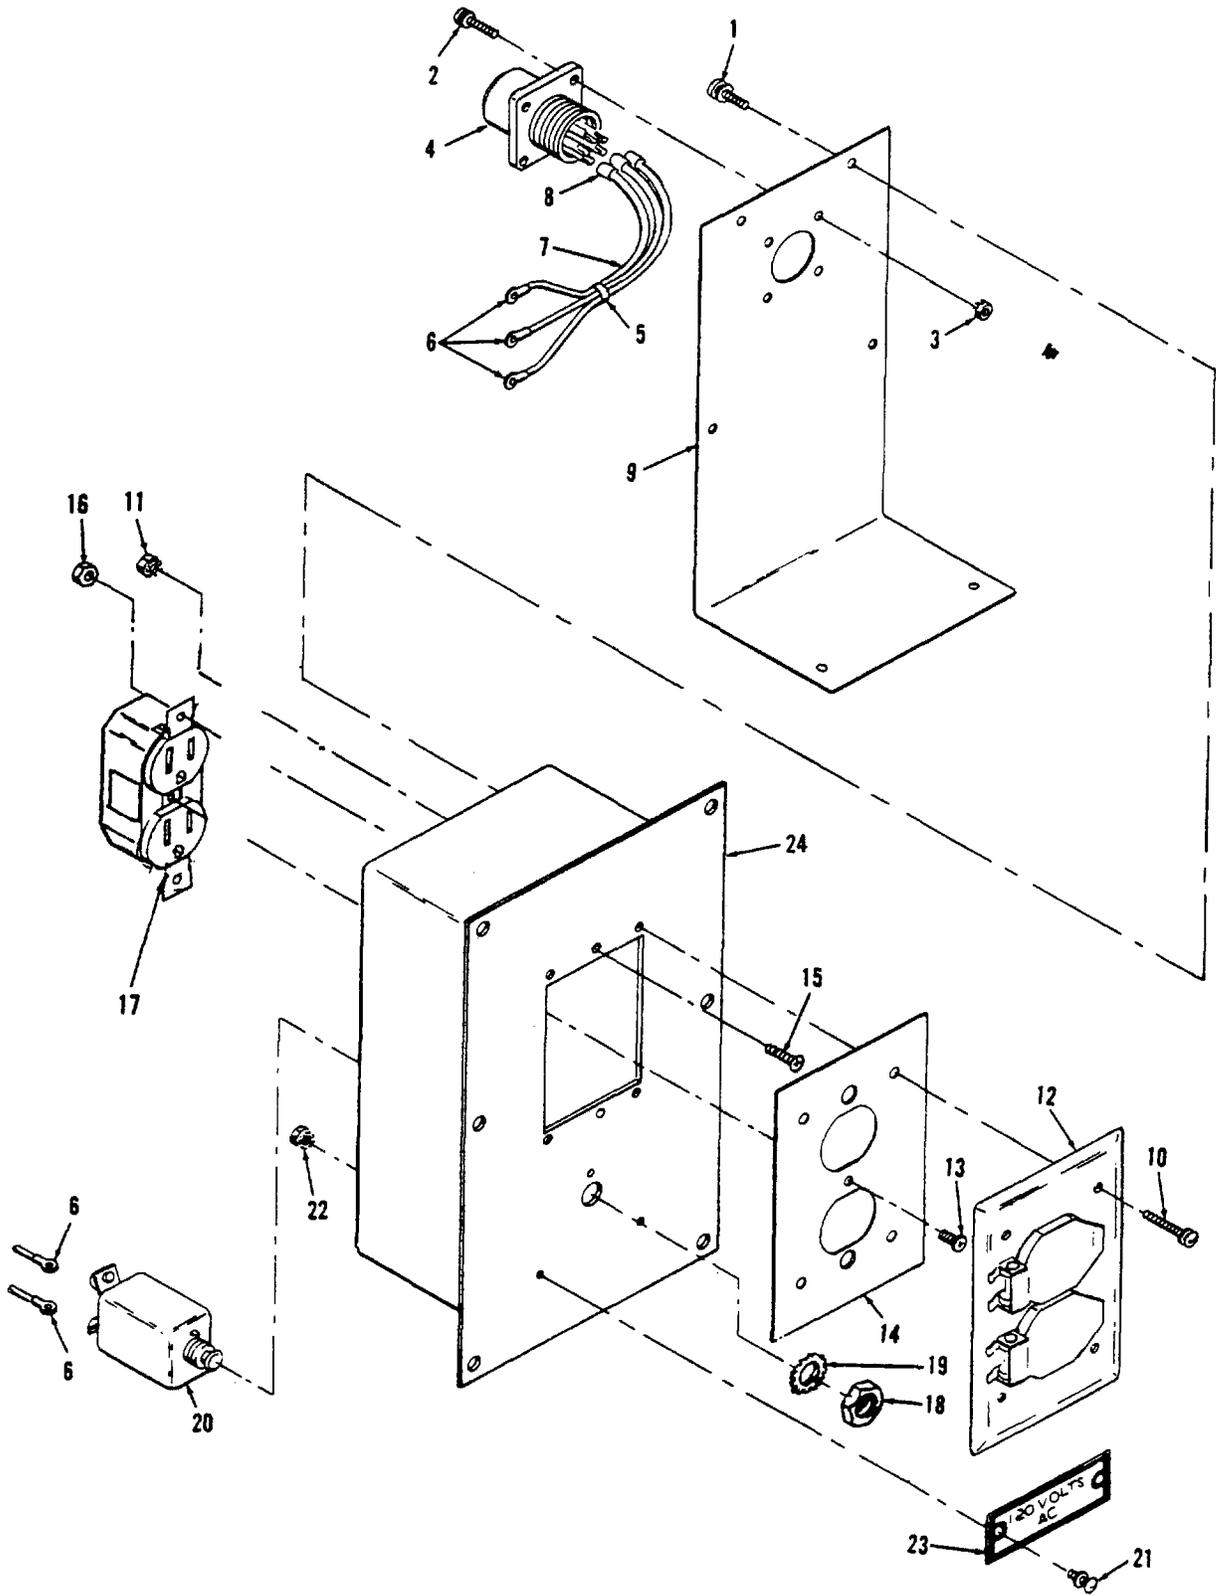

Figure 4-42. Convenience Receptacle Assembly, Exploded View
c. Disassembly. Refer to figure 4-42 to disassemble the convenience receptacle assembly. Pay particular attention to the following:
(1) Remove six screw assemblies (1) and separate the cover (9) from the housing (24).
(2) Tag and disconnect wires from circuit breaker (20) and the duplex receptacle (17).
Legend for Figure 4-42
(1) Repair defective wiring (refer to FO-1).
(2) Straighten dented or distorted sheet metal parts using proper tools.
g. Reassembly. Refer to figure 4-42 and reassemble convenience receptacle assembly. Pay particular attention to the following:
(1) Connect wires in accordance with FO-1.
(2) Install connector plug (4) with keyway up.